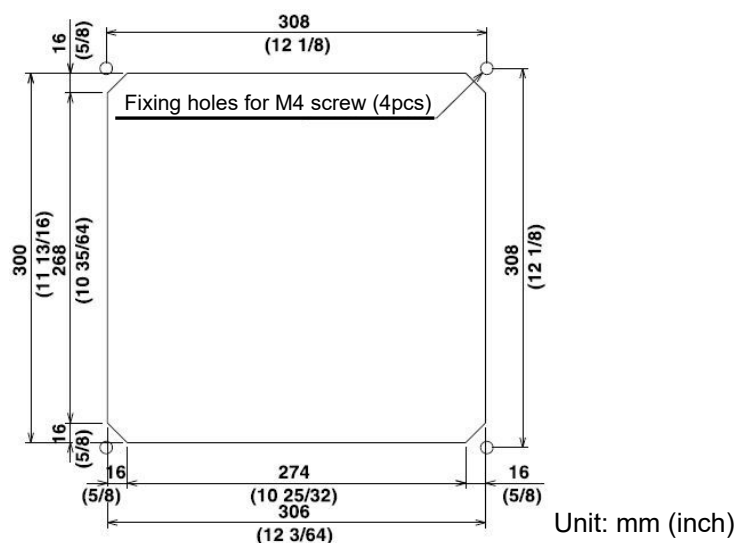

Fig. 5.5 Work of flush-mount installation hole
- (1) Make a square hole at the location to be installed. (See Fig. 5.5.)
- (2) Turn counter-clockwise the knob bolt fixing the display unit to the mounting bracket to loosen it, push the unit to the left side and pull the unit upward. The mounting bracket and knob bolt are not used.
- (3) Remove four plastic screw covers, which are fitted on each corner of the display front face.
- (4) Confirm that the unit matches with the square holes. If not matched, correct the square hole.
- (5) Connect the connectors for power and transducer to the unit respectively.
- (6) Install the display unit in the installing location (square hole) and fix it with four 4mm tapping screws (or M4 pan-head). (Prepare 4mm screws suitable for thickness of installing location.)
- (7) Refit the coverings removed in step (3).